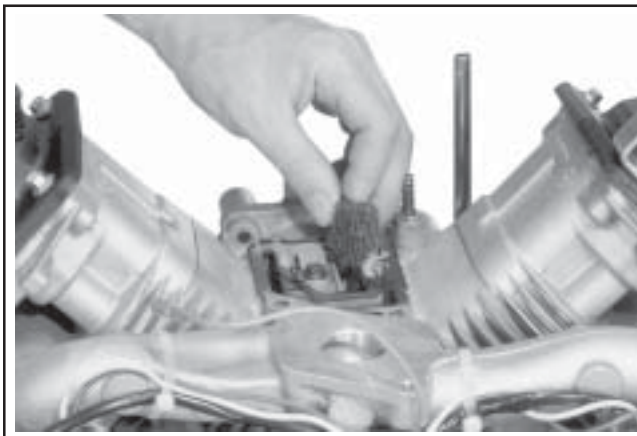

Figure 9-43. Removing Breather Filter.
6. Remove the breather filter from chamber. See Figure 9-43.